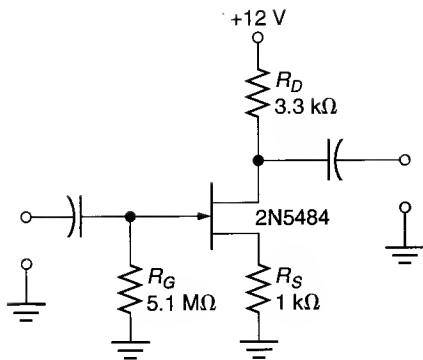

FIGURE 12.56
19. Determine the ranges of V_{GS} , I_D , and V_{DS} for the circuit shown in Figure 12.56. The 2N5484 is described in Problem 7.